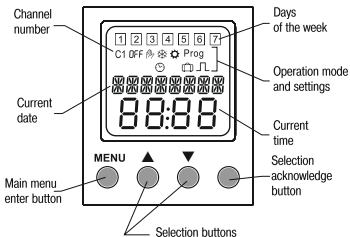

Figure 1 – Front panel of the timer
2.3 The front panel and the symbols displayed on the screen are shown in the figure 1 and in the Table 3.